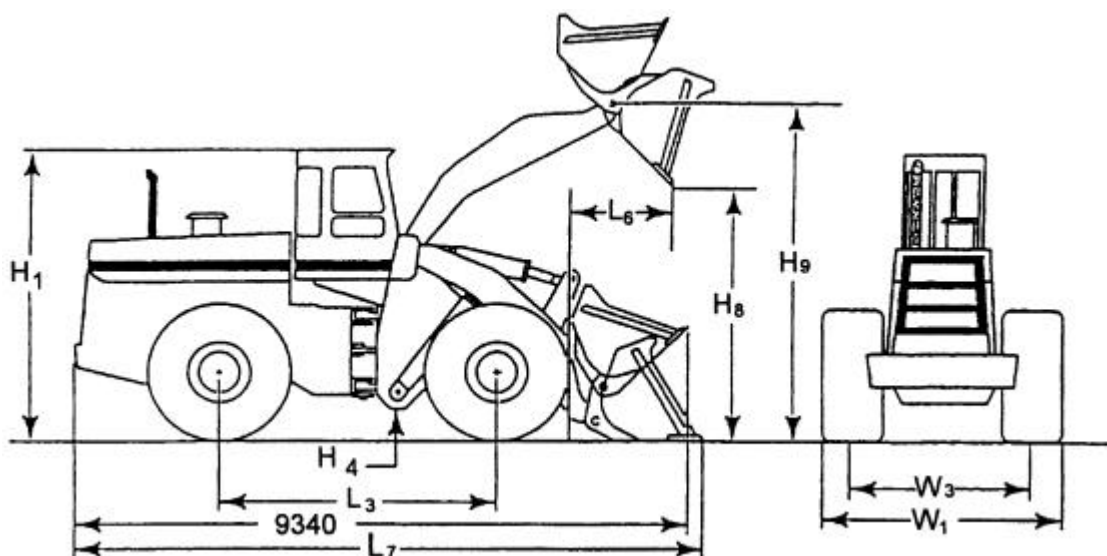

Fig. 6.7. Overall Dimensions – Wheel Loader 560C
6.8.1. GENERAL SPECIFICATIONS OF THE LOADER (Refer to Fig. 6.7. and 6.8.)